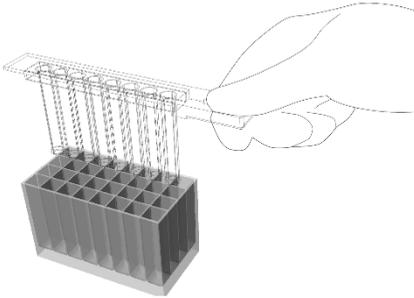

Figure 8. Mixing of content of **column 3** using the rod cover only.
19. Using only the rod cover, mix the contents of **column 3**, by slowly lifting the rod cover to the top of the solution and returning the rod cover to the bottom of the wells 10 times for 1 minute (Figure 8).